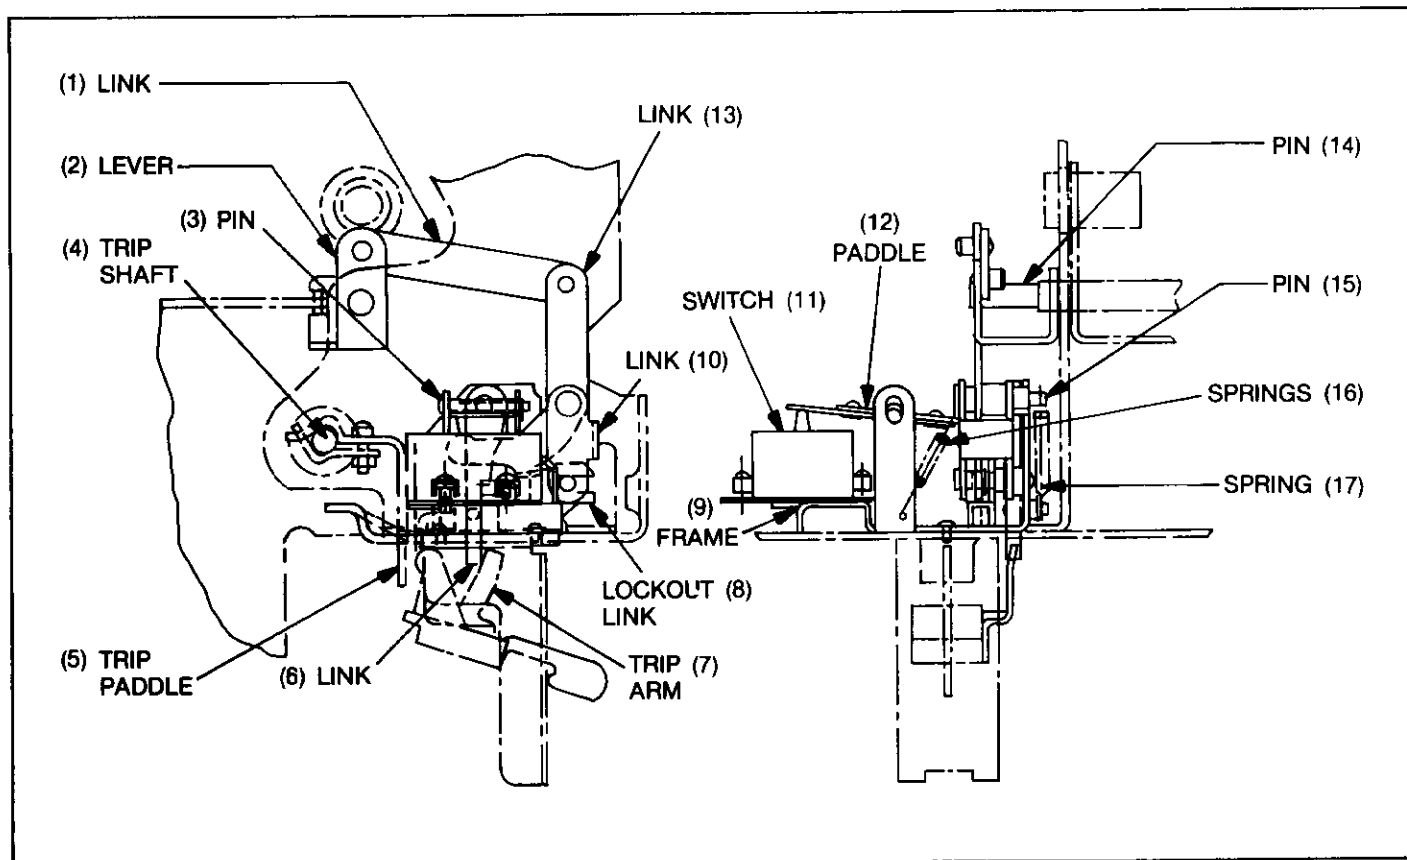

Fig. 15. Bell alarm and lockout device
Bell Alarm Switch and/or Lockout Attachments (Fig. 15)
The lever (2), Fig. 15, is connected to the breaker mechanism so that when the breaker opens, lever (2) rotates counterclockwise about pin (14). The motion is transmitted through links (1) and (13) to paddle (12) which operates bell alarm switch (11). If the device has the lockout feature, the movement of link (13) also causes lockout link (8) to slide in a direction that results in its striking trip paddle (5) which, by displacement of the breaker mechanism trip latch, makes it impossible to reset the breaker mechanism until the bell alarm mechanism is reset.